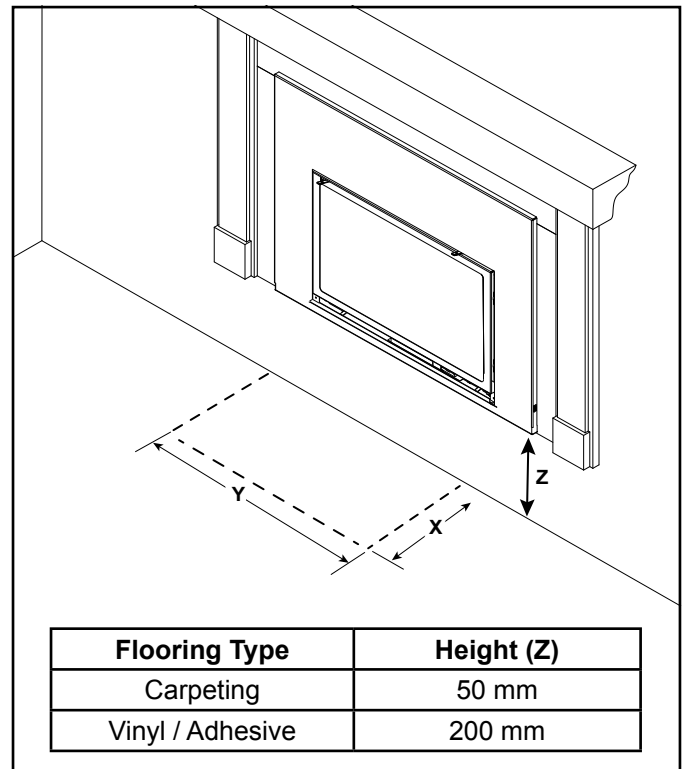

Figure 3.16 Hearth - Minimum Height for Vinyl / Adhesive or Carpeting Flooring
- Carpeting is acceptable in front of the appliance when the appliance is raised off the floor 2 inches (50 mm) or more. Vinyl Adhesive flooring is acceptable in front of the appliance when the appliance is raised off the floor 8 inches (200 mm) or more. See Figure 3.16.